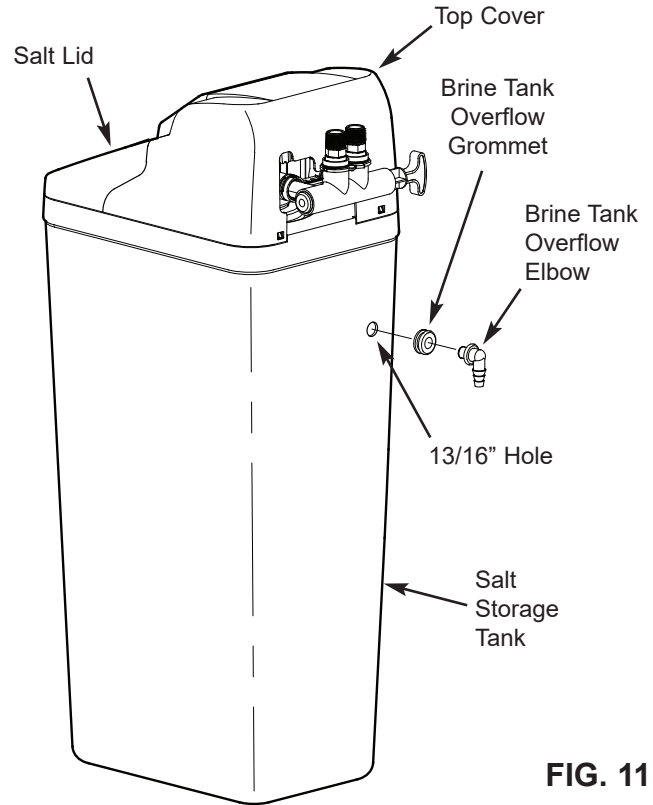

FIG. 11
1. North Star models are factory assembled. During installation, unsnap and remove the top cover, together with the salt lid (See Figure 11), to expose the softener valve assembly. Set them aside to prevent damage.
2. Install the brine tank overflow grommet and elbow into the 13/16" diameter hole in the back of the salt storage tank wall (See Figure 11).